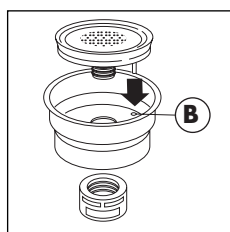

fig. 34
- Replace the assembly into the steel filter container (fig. 34), ensuring the pin is inserted into the hole in the support (hole **B** in fig. 34).